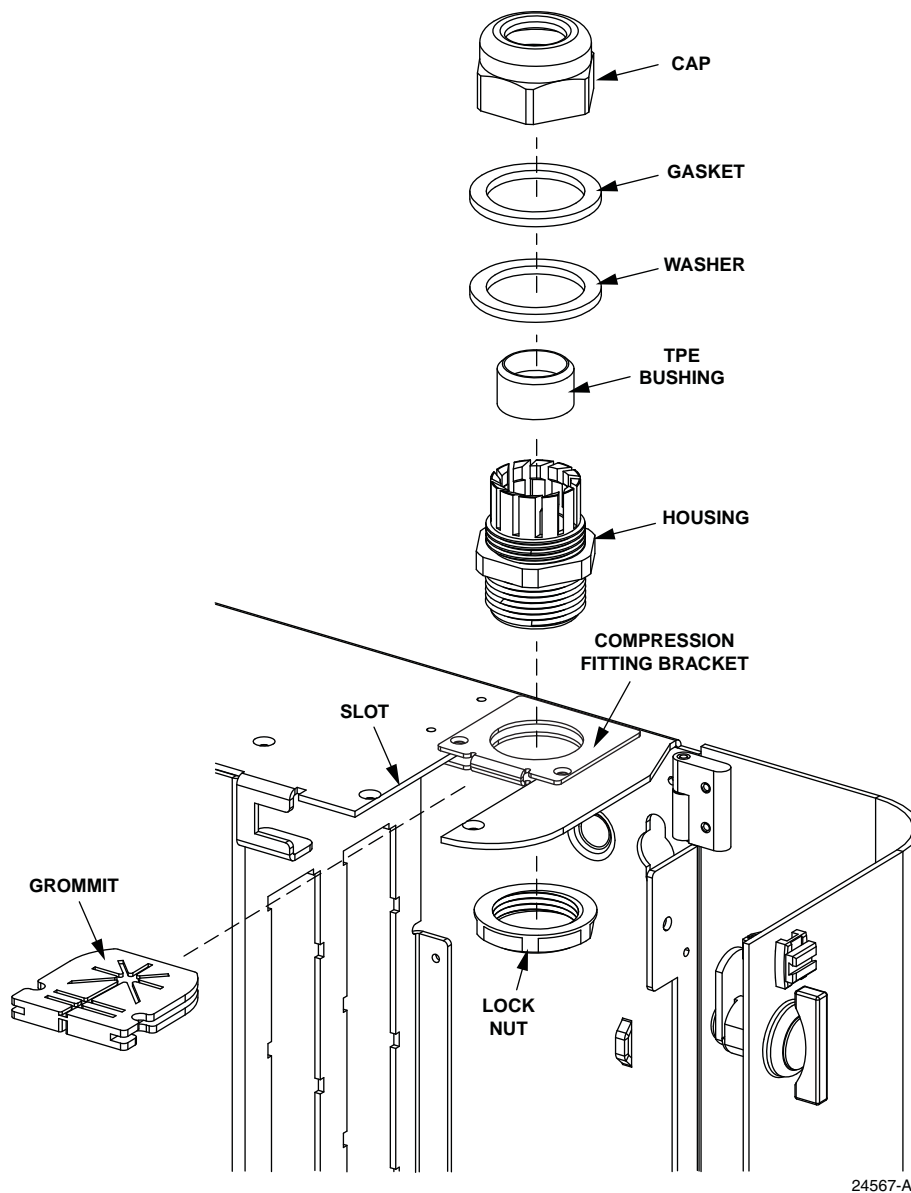

Figure 20. Compression Fitting (Select from Eight Mounting Locations)
4. If using a compression fitting (Figure 20):
4. If using a compression fitting, refer to Figure 20 and associated text in the procedure above for the 12-fiber wall-mount box.